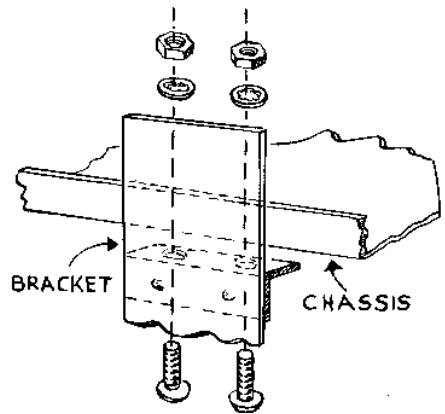

Fig. 13
- () The large L mounting bracket should now be mounted on the chassis with two 6-32 screws, lockwashers and nuts (see Figure 13 for detail). The L bracket mounts to the panel by means of a meter mounting screw, lockwasher and nut.